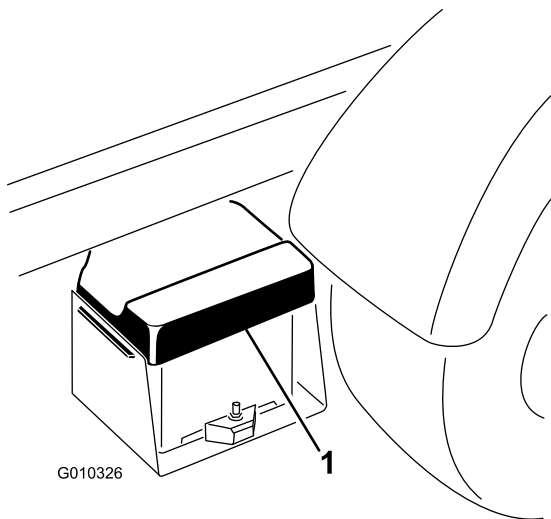

Figure 10
- A. Squeeze the battery cover to release the tabs from battery base (Figure 10).
- B. Remove the battery cover from the battery base (Figure 10).
- B. Squeeze the battery cover, align the tabs to battery base, and release battery cover (Figure 10).